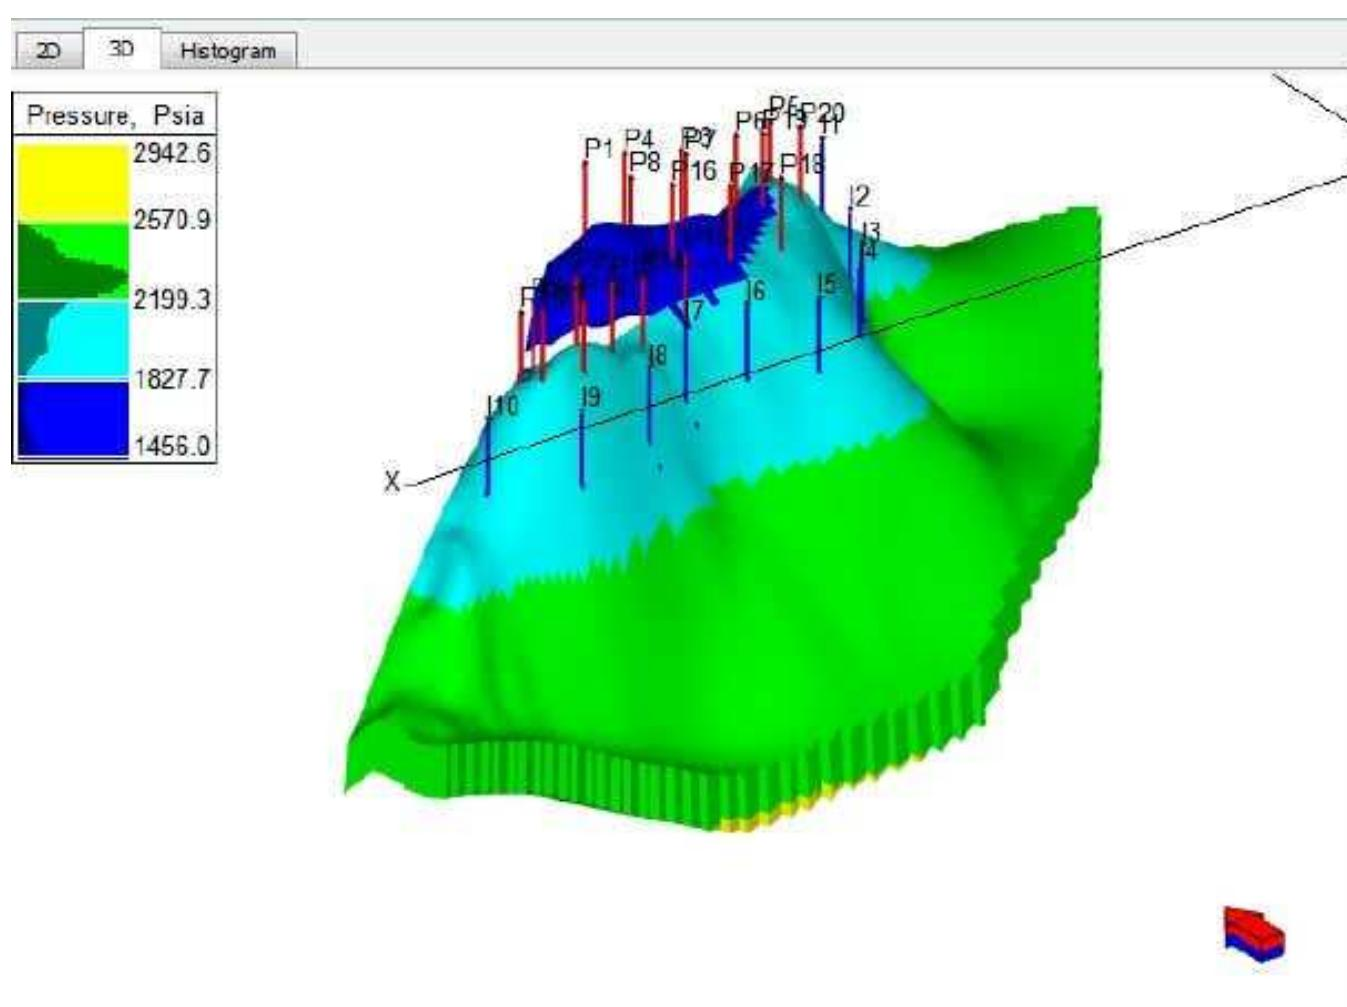

Figure 49. Discrete Palette.
- **Set Discrete Palette** (this will cancel linear interpolation between colors and will show a contour line analogue; to come back to a continuous palette, right-click palette and select **Set Continuous Palette**). In the discrete palette (see figure 49) property's colors corresponding to a property's values vary from the minimum (indicated by the horizontal line at the bottom of the palette's color) to the maximum (indicated by the horizontal line at the top of the palette's color). In a continuous palette every value of the parameter corresponds to a color shade of the palette.